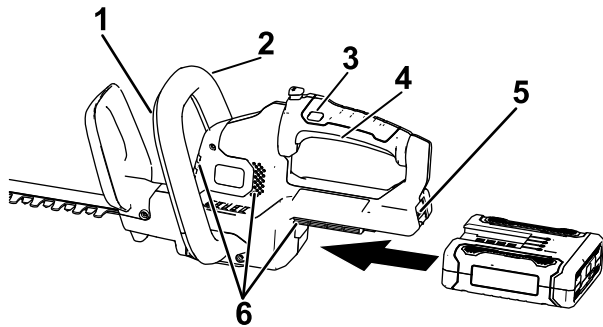

Figure 4
3. Align the cavity of the battery pack with the tongue in the handle housing, grasp the handle, and push the battery pack into the handle until the latch locks into place (Figure 4).
4. Place 1 hand on the trigger handle. Place the other hand on the auxiliary handle (Figure 4).
5. Press the lock switch and then squeeze the trigger switch while engaging the auxiliary-handle switch to turn on the hedge trimmer (Figure 4).
lock switch may be released once the hedge trimmer is running (Figure 4).
1. Release the trigger or auxiliary-handle switch (Figure 4).